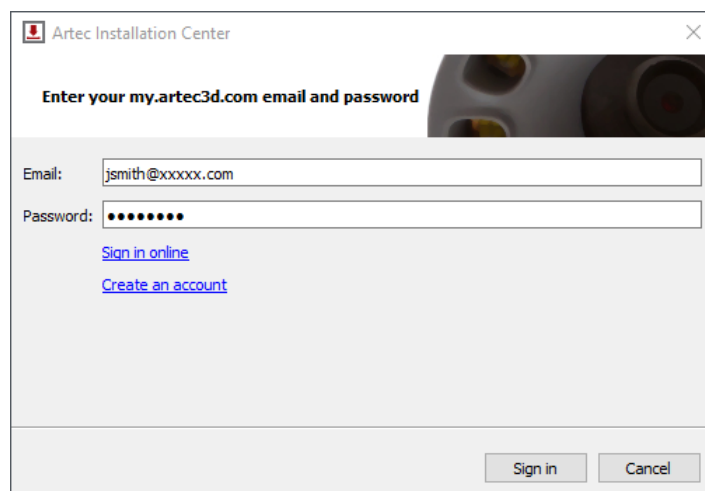

Figure 18: Authentication for Artec Installation Center
2. After downloading, open the folder that contains the executable and run it. Follow the instructions on the installation screens. Once Artec Installation Center is installed, you will see a dialog requesting your email address and password. Use your *my.artec3d* account to log in as Figure 18 shows.
If you have yet to install Artec Installation Center, a login dialog will appear, as Figure 18 shows. If you are not connected to the Internet, consult Offline Activation regarding offline activation of Artec Studio.